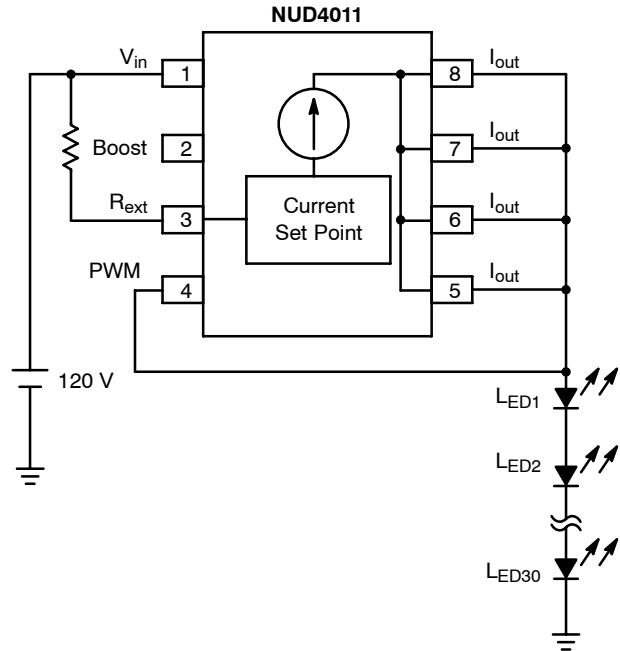

Figure 5. 120 V Application (Series LED's Array)
3. Device's pin 4 connected to the LEDs array (as shown in Figure 5).
- a. Per example in Figure 5,  $V_{in} = 120 \text{ Vdc}$
4. Define  $V_{LED} @ I_{LED}$  per LED supplier's data sheet: per example in Figure 5,
- a. Per example in Figure 5,  $V_{in} = 120 \text{ Vac}$